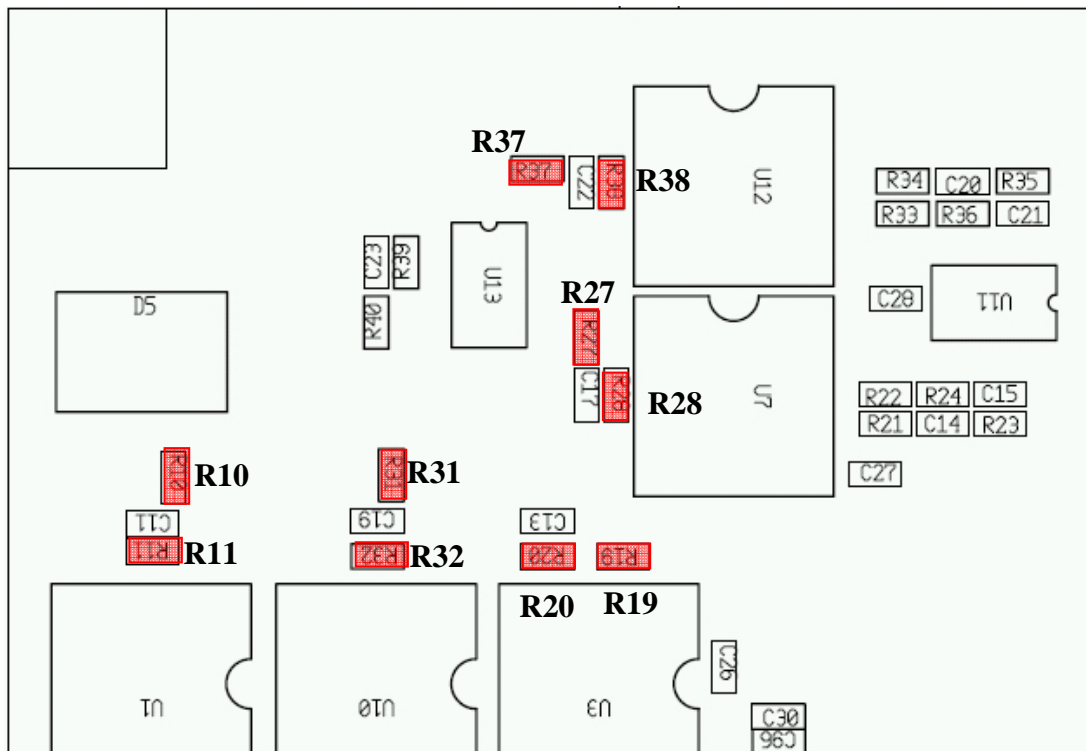

Fig.7. Resistor dividers to be changed on ELMB_MB bottom side related to point 3-f.
- (f) Nominal resistor values of ELMB_MB input sense line dividers have been changed, see next **Fig.7**. (see also scheme on page 9, Fig.12). New resistor values are: